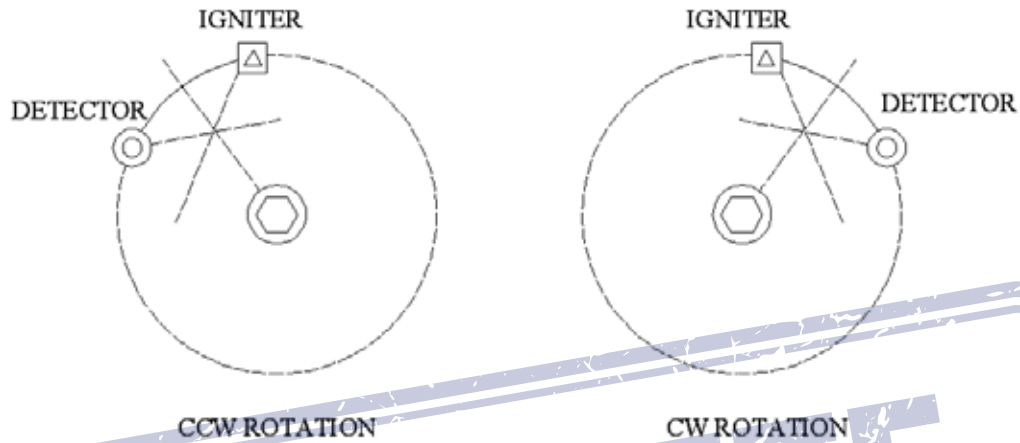

Figure 5 – Air Rotation
3. Consideration must be given to burner secondary air rotation, some burners have clockwise (CW) air rotation and others have counter clockwise (CCW) air rotation. If combustion air enters the furnace with a rotational movement of sufficient velocity to deflect the igniter flame in the direction of rotation, position the detector 10 to 30 degrees downstream of the igniter as shown in Figure 5 and close to the periphery of the burner throat. On opposed fired burners, avoid sighting main flame main flame detector with igniter on opposite wall, i.e., 3 o'clock igniter with 9 o'clock main flame detector and mirror-image burner on the opposite wall.